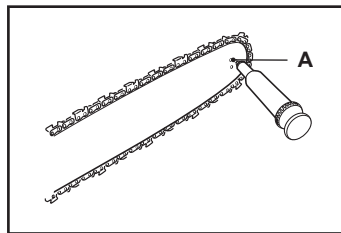

Fig. 13
**NOTE:** It is not necessary to remove the saw chain (3) to lubricate the sprocket wheel. Lubrication can be done on the job.
1. Clean the sprocket wheel (5).
2. Using a disposable lube gun, insert the needle nose into the lubrication hole (Fig. 13, A) and inject grease until it appears at the outside edge of the sprocket wheel (5) (Fig. 13).